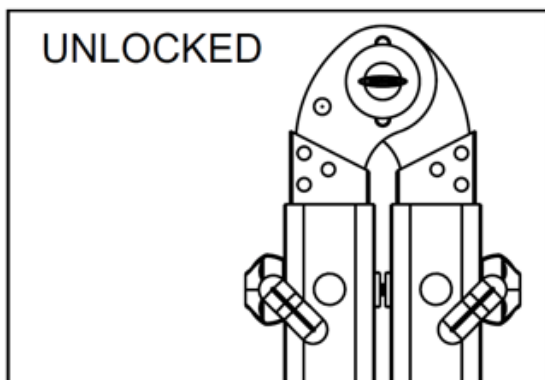

Figure 3
- 1) Unlock the 4 “J” locks by pulling out and rotating the “J” lock away from the rung hole (See Figure 3).